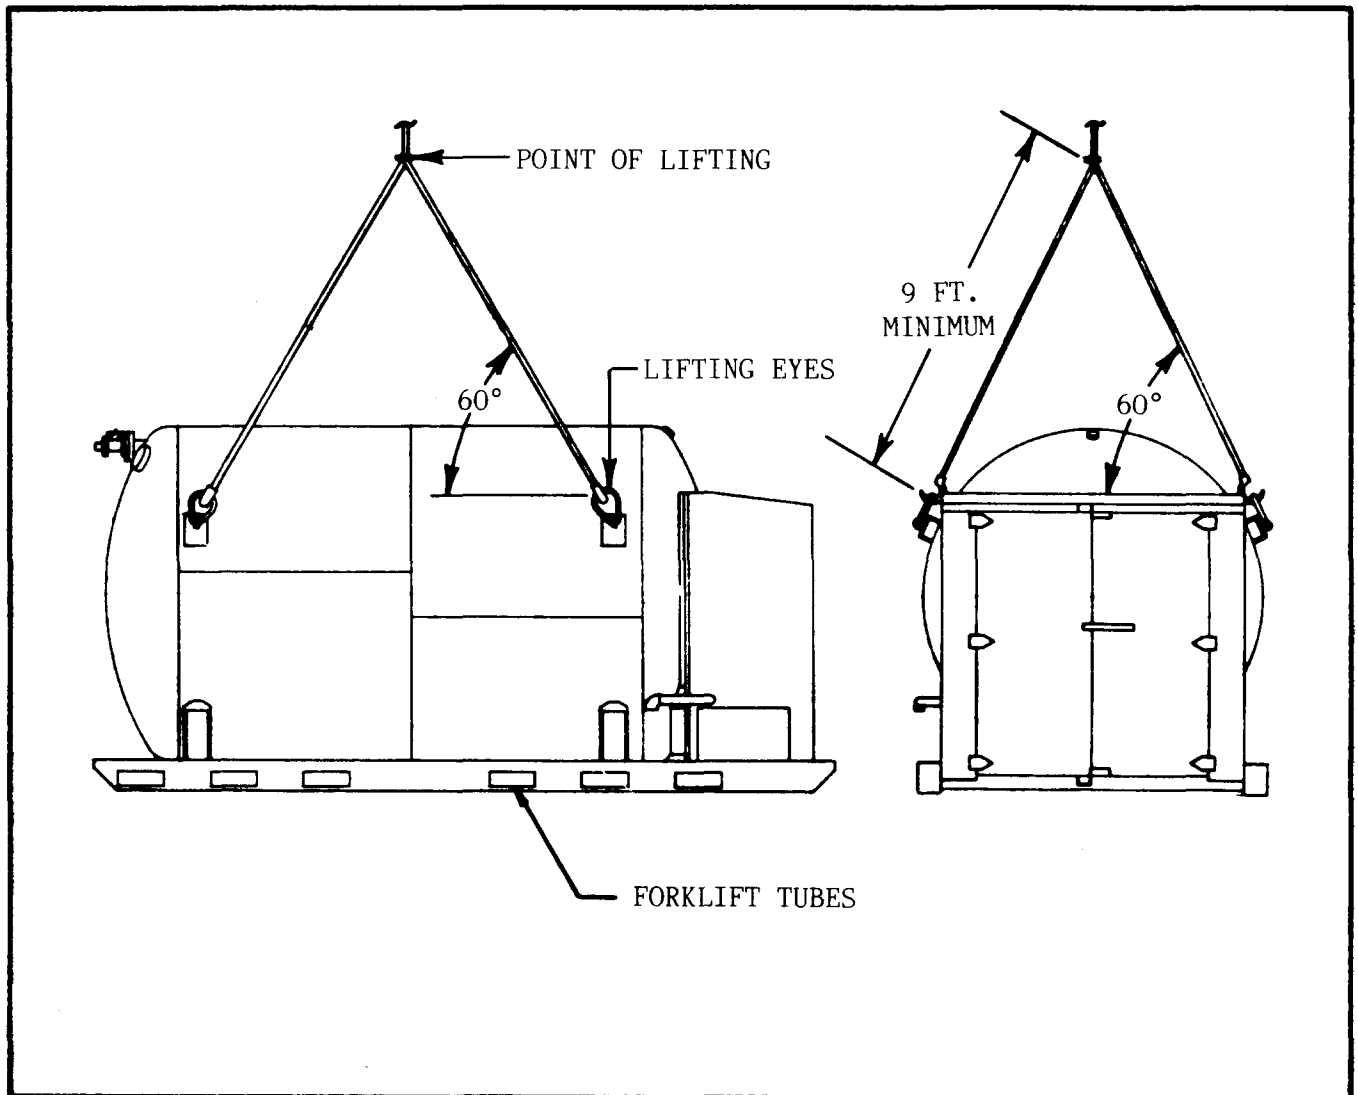

Figure 3-1. Lifting Instructions.
3-5.1 Lifting and Moving Methods (See Figure 3-1). The Tank can be lifted and moved by two (2) methods as follows: